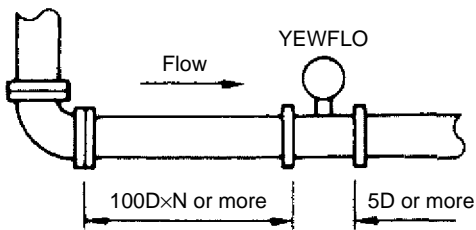

Figure 9.2.1
- Bent pipe and straight pipe length: Ensure the upstream straight pipe length to be 10D or more, and the downstream straight pipe length be 5D or more for per bent pipe. (Refer to Figure 9.2.1)